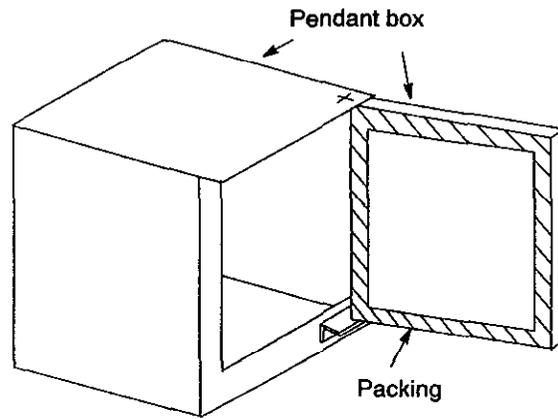

Fig. 1.9 Door Packing
- Secure the rear door lid with packing material. (Refer to Fig. 1.9.)